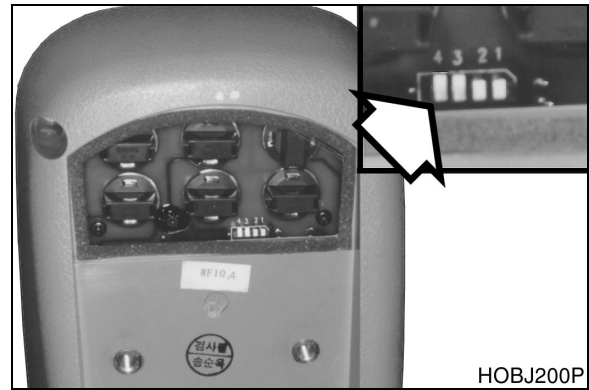

Figure 10
* A dip switch located in the instrument panel, can be set for either export or domestic markets. If a 20 - 30 V / 20 - 40 bar (290 - 580 psi) reading is obtained, the switch is set for a domestic market and must be reset to export. See Figure 10.